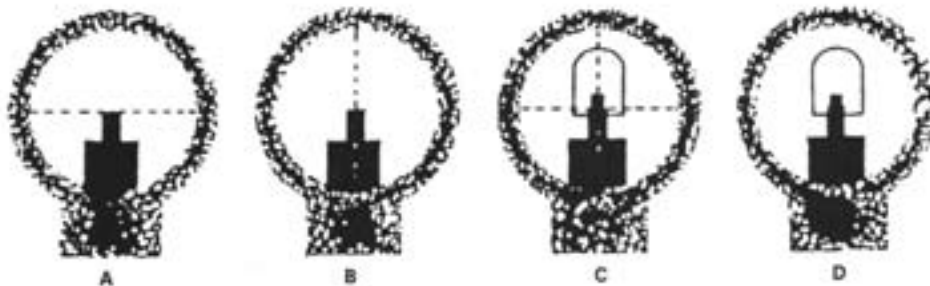

Figure 2-51. Sight Picture.
(1) Sight alignment. Align the rear sight aperture (peep sight) with the sight post of the hooded front sight. Then, align the front sight post in the center of the rear peep sight. An imaginary horizontal line drawn through the center of the peep sight should touch the top of the front sight post, while an imaginary vertical line through the center of the rear peep sight should bisect the front sight post.
(2) Focus of the eye. A good firing position places the eye directly on line with the center of the rear sight. Focus on the tip of the front sight post. The natural ability of the eye to center objects in a circle and to seek the point of greatest light (center of peep sight) aids in providing correct sight alignment.
(3) Sight picture. A correct sight picture has the target, front sight post, and rear sight aligned. The sight picture consists of sight alignment and placement of the aiming point on the target. Align the tip of the front sight post in the center (see figure 2-51) of the rear peep sight and then align the sights with the target. Align the top of the front sight post on the center base of the target.